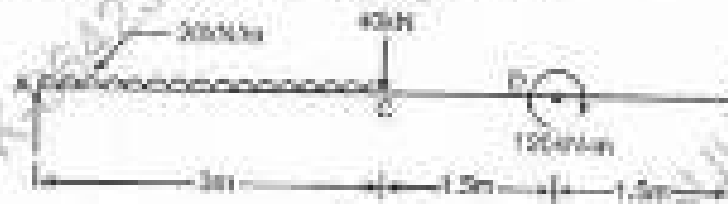

Fig. 2
- Q2) Draw SFD and BMD for loading condition shown in fig 2. Locate point of inflection if any and Maximum bending moment. [16]